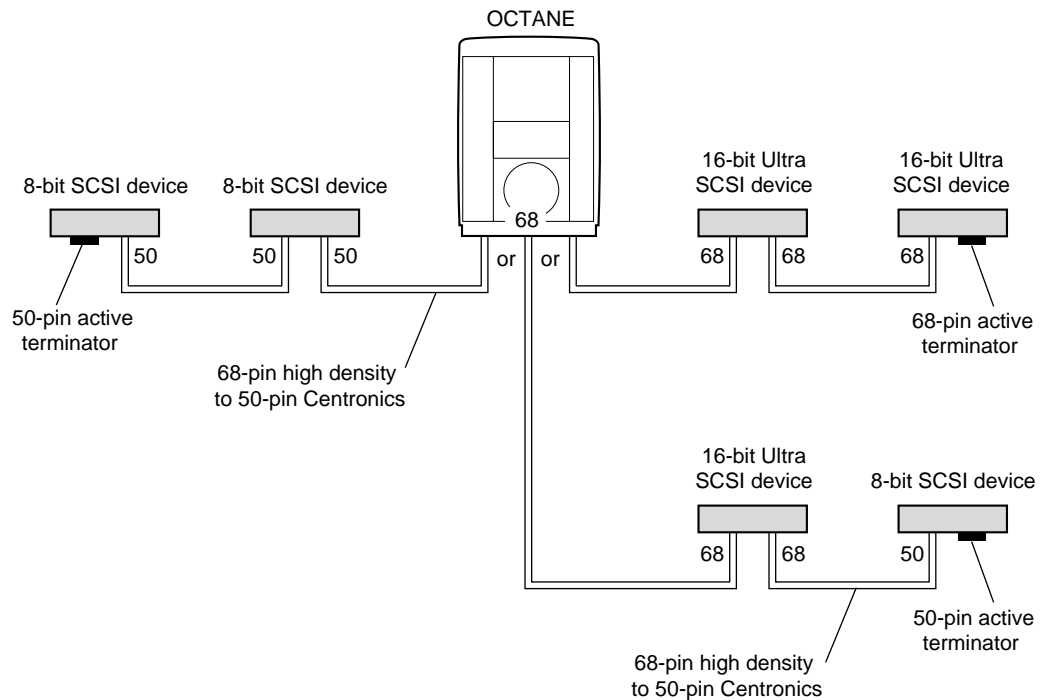

Figure 6-4 Using the Correct Cables Between Devices and/or the Octane Workstation
2. Connect the fastest SCSI device or devices to the Octane workstation and each other, then connect slower devices at the end of the chain. See Figure 6-4.
- If you are attaching the device to the workstation, use the high-density 68-pin to Centronics® 50-pin Fast SCSI cable. See Figure 6-4.